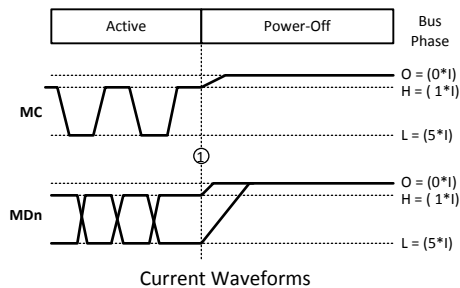

Figure 10. Bus Power Down Timing
(1) Typical values are given for $V_{DDIO} = 1.8\text{V}$ and $V_{DD} = V_{DDA} = 1.8\text{V}$ and $T_A = 25^\circ\text{C}$.
(2) 1 UI is the serial data MD pulse width = $1 / 8 \times \text{PCLK}$ (3 MD lanes), 1 UI is the serial data MD pulse width = $1 / 12 \times \text{PCLK}$ (2 MD lanes)
(3) This is a functional parameter and is specified by design or characterization.
(4) Enable Time is a complete MPL start up comprised of $t_0 + t_1 + t_2 + t_3 + t_4$.
(5) Specified functionally by the I_{DDZ} parameter. See also Figure 10.
In the OFF phase, MPL transmitters are turned off with zero current flowing on the MC and MDn lines. Figure 10 shows the transition of the MPL bus into the OFF phase. If an MPL line is driven to a logical Low (high current) when the OFF phase is entered it may temporarily pass through as a logical High (low current) before reaching the zero line current state. The link may be powered down by asserting both the SER's and DES's PD* input pins (Low) or by stopping the PCLK (DES dependant). This causes the devices to immediately put the link to the OFF Phase and internally enter a low power state.